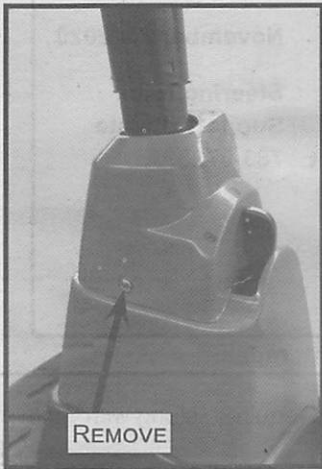

FIGURE 2
4. Remove and retain Screw 1/4-20x.75 from Column Cap. Twist Cap 1/8th turn counter clockwise and lift up. Disconnect the headlight wire harness (if equipped), Raise the cap to the top of the steering column. See Figure 2 and 3.